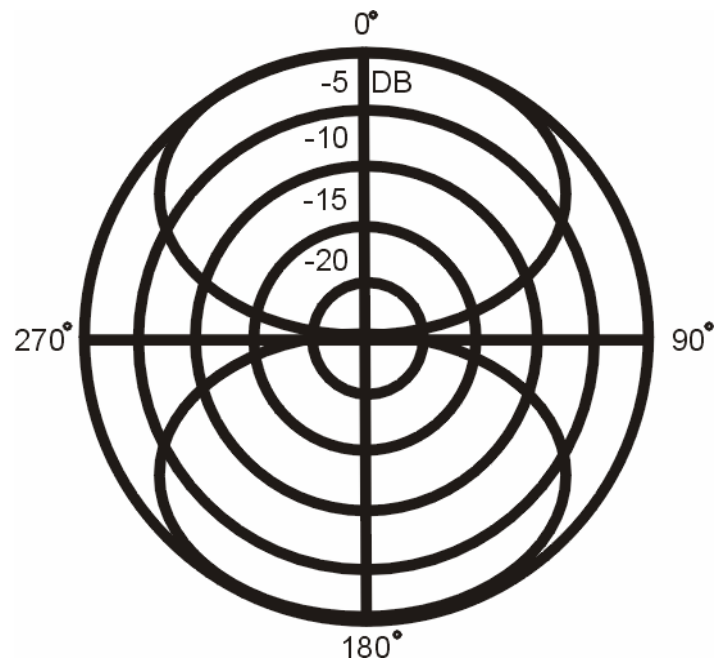

Figure K-2. Bidirectional
(2) Bidirectional. A maximum pickup facility of 0 degrees and 180 degrees with a facility at 90 degrees and 270 degrees (Figure K-2).